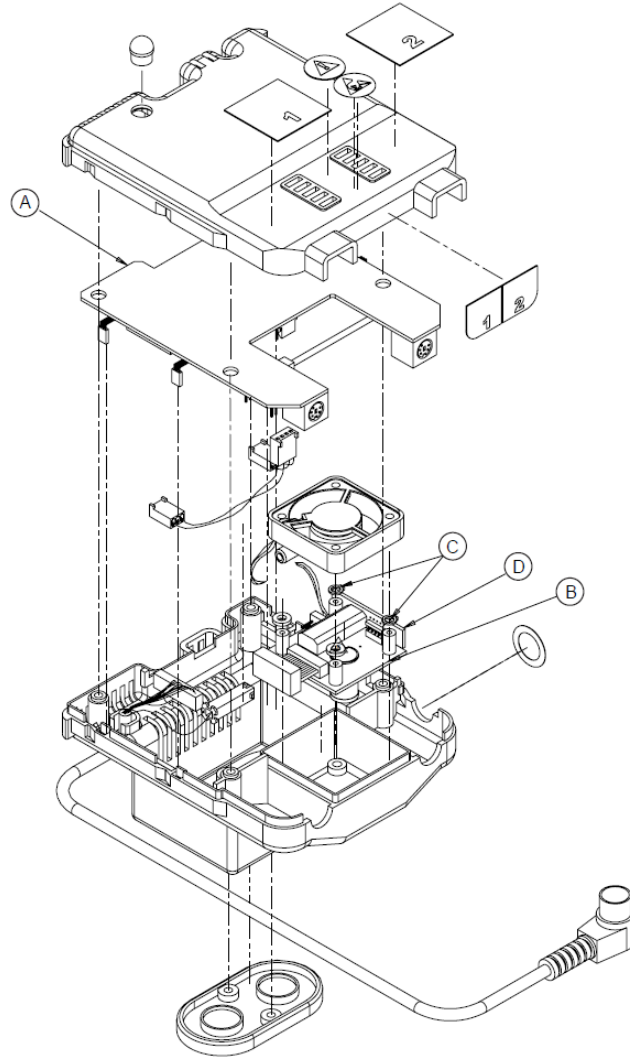

Fig. 50 Sensor Module
- 11 Remove the Connector PCB (including fan) (Fig. 50/B) from the Sensor Module.
**Note the position and orientation of 2 tabbed washers (Fig. 50/C).**
- 13 If the fan is soldered in, remove and retain the Humidity PCB (if present) (Fig. 50/D) from the Connector PCB (Fig. 50/B).
- 14 Discard the Connector PCB (including fan) (Fig. 50/B).
- 15 Install the Humidity PCB (if present) (Fig. 50/D) into the new Connector PCB (including fan) (Fig. 50/B).
- 16 Install the new Connector PCB (Fig. 50/B) into the Sensor Module.